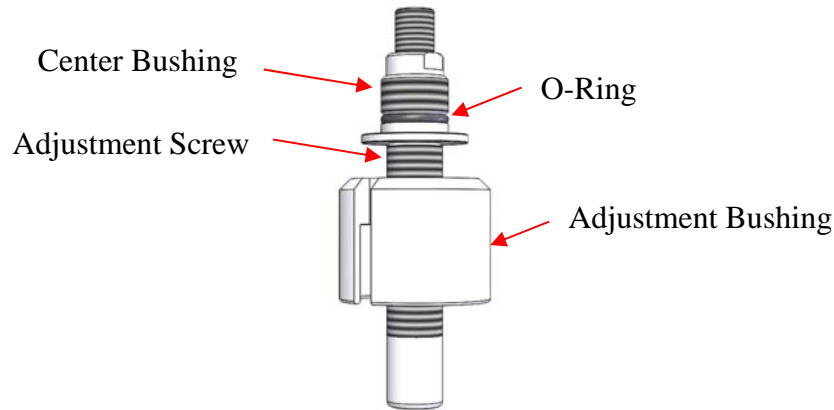

Figure 31: Inner Bonnet Components
5. Install the center bushing over the top of the adjustment screw. See Figure 31.